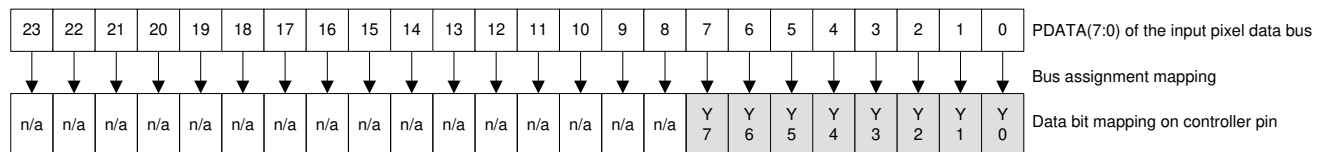

图 6-9. BT.656 Interface Mode Bit Mapping
- (1) Calculate clock jitter (in ns) using this formula: Jitter = $[1 / f_{\text{clock}} - 5.76 \text{ ns}]$. Clock jitter must maintain setup and hold times. BT.656 data bits must be mapped to the DLPC34xx PDATA bus as shown in Figure 6-9 shows BT.656 bus mode YCbCr 4:2:2 source PDATA (23:0) mapping.
- (2) The BT.656 interface accepts 8-bits per color, 4:2:2 YCbCr data encoded per the industry standard through PDATA(7:0) on the active edge of PCLK. See Figure 6-9.